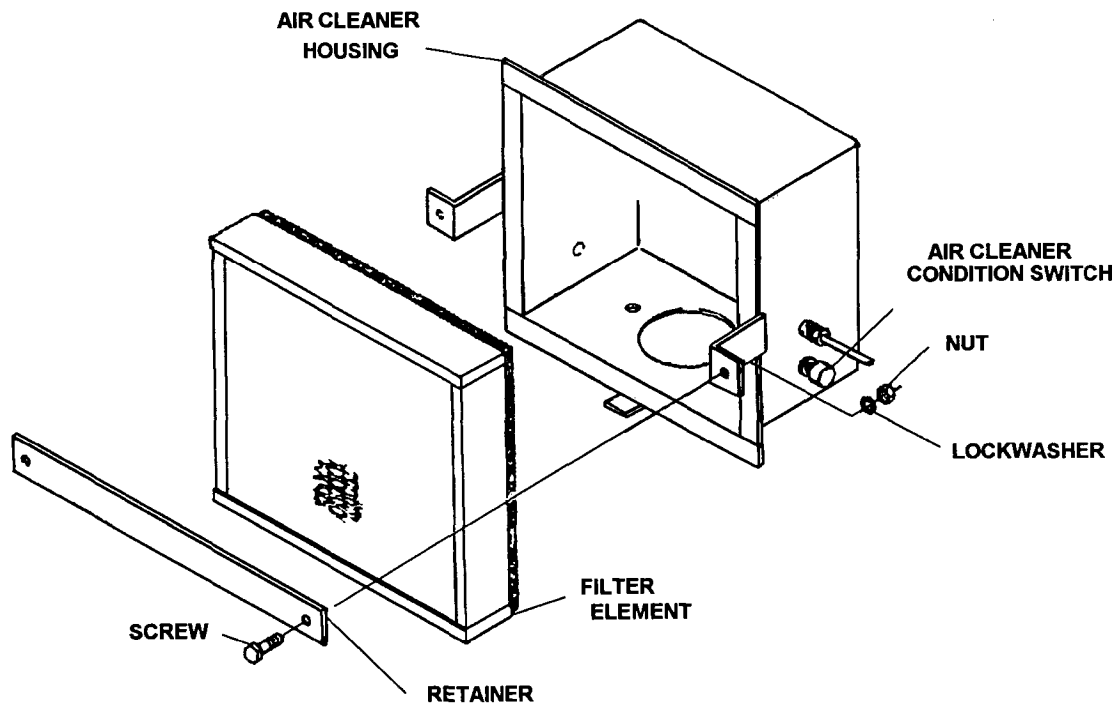

Figure 4-31. Servicing the Engine Air Cleaner
- (1) Remove nuts, lockwashers, screws and retainer (Figure 4-31).
- (2) Carefully remove dirty filter element from housing.